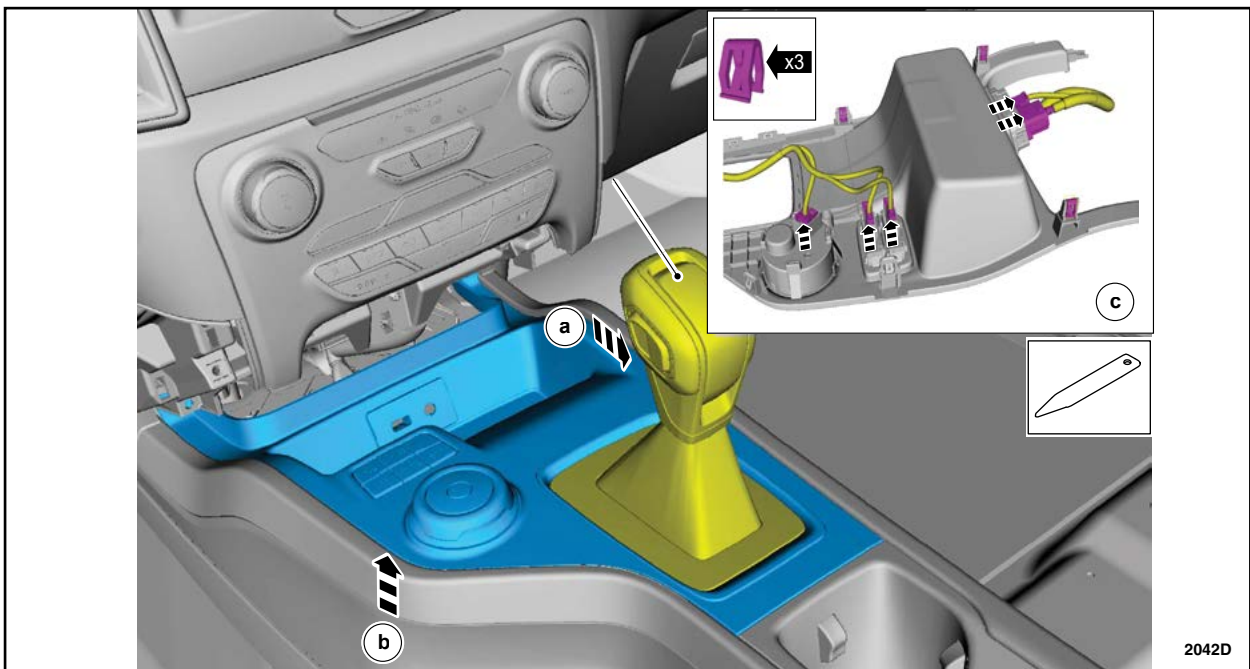

FIGURE 7
8. Remove the floor console upper trim panel. See Figure 7.
13. Install the floor console upper trim panel. See Figure 7.